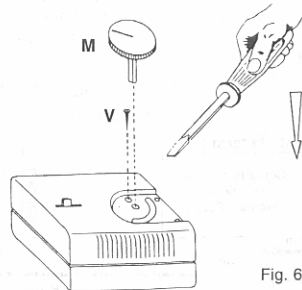

Fig. 6
- Open the thermostat as indicated in figure 6:
- Close the thermostat, fix the cover using screw **V** (fig. 6), and replace temperature regulation knob **M**.
- Use a screwdriver to remove the regulation knob (as shown in figure 6).